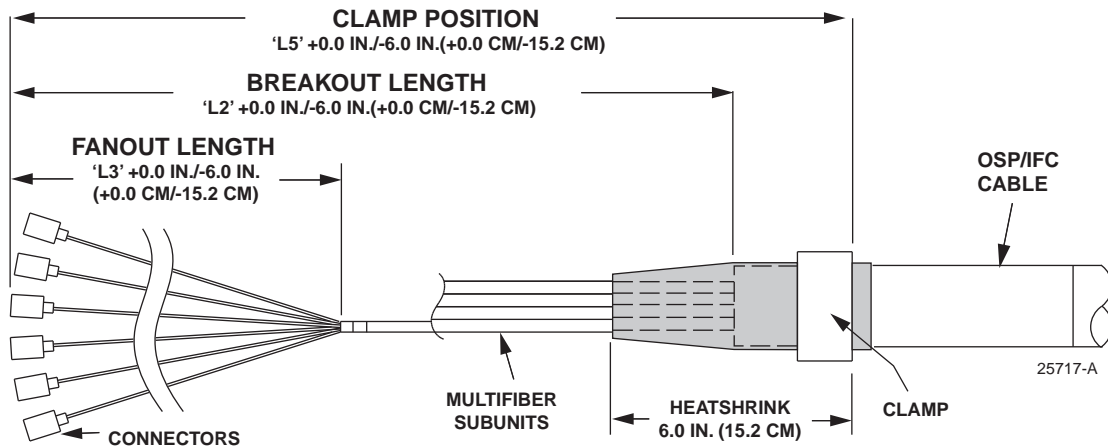

Figure 18. IFC Stranded Cable Breakout Dimensions
1. If the cable is being connectorized, assure it conforms to the breakout shown in Figure 18, Figure 19, or Figure 20 for the cable type identified. For 'L' dimensions, refer to Table 2.